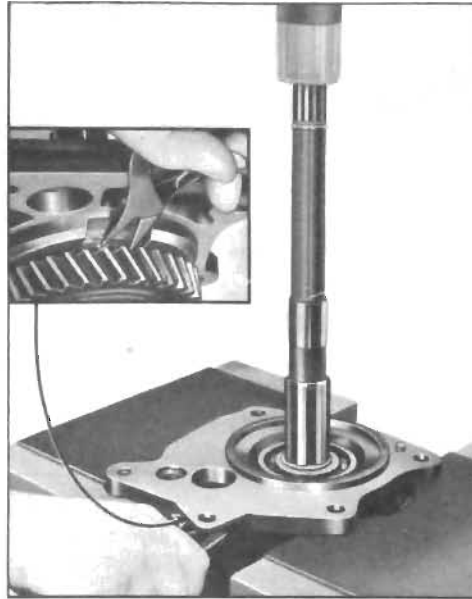

Figure 4-50—Removing Rear Bearing Retainer
18. Spread rear bearing retainer snap ring and press mainshaft out of retainer. See Figure 4-50.
snap ring. Support first and second speed clutch assembly as shown in Figure 4-50, and press on rear of mainshaft to remove shaft from rear bearing, first speed gear, and synchronizing ring first and second speed clutch sliding sleeve and first speed gear bushing.